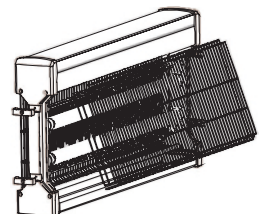

Figure 4
4. Gently remove and replace the lamp using lamp COM41G (Figure 4).